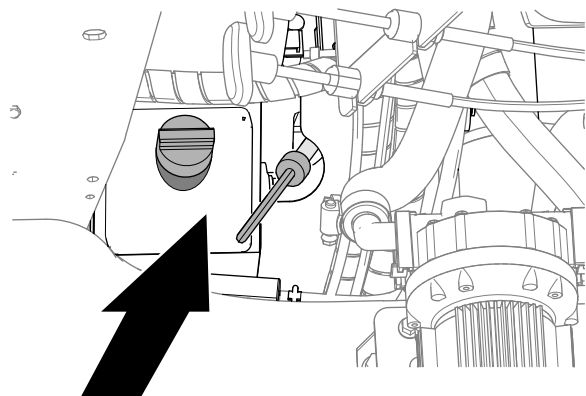

Figure 69
3. Remove the dipstick from the engine and wipe the dipstick with a clean rag (Figure 69).